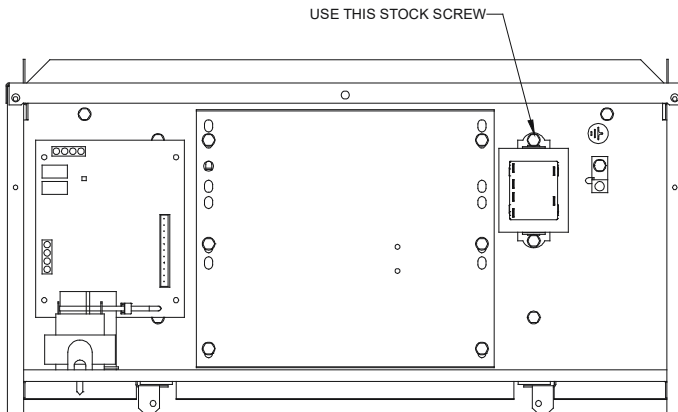

Figure 20
Remove a screw located on the control deck that is shown in Figure 20 and affix the PCB transformer with the removed screw and a screw hole. Then secure another screw hole of PCB transformer using (1) field supplied self drilling screws.